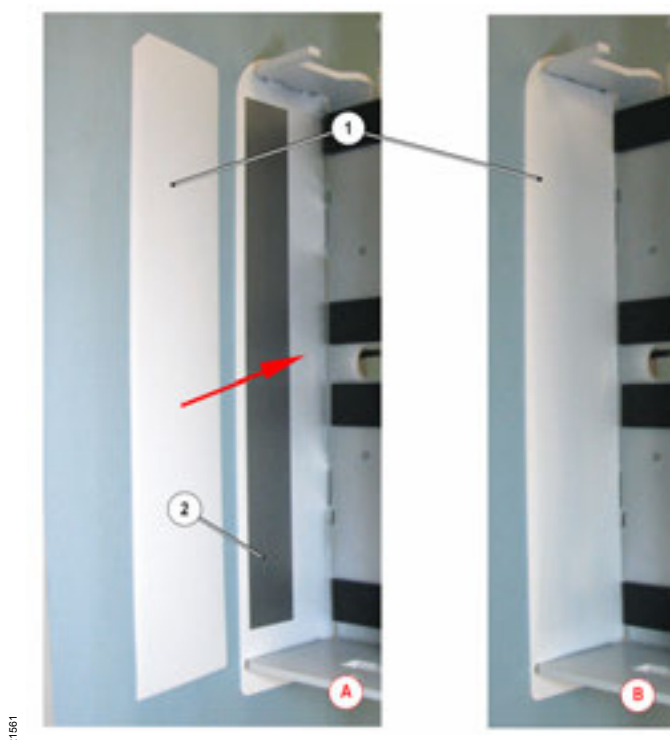

Fig. 109 Battery pack for external batteries: Insulating plate
- 3 If you find during disassembly that the insulating plate (8421115) (Fig. 109/1) was not fitted, or was damaged, order a new one.
- 4 Insert the insulating plate (Fig. 109/1) in the battery pack, ensuring it is correctly positioned so as to sit flush on the insulating strip (Fig. 109/2).